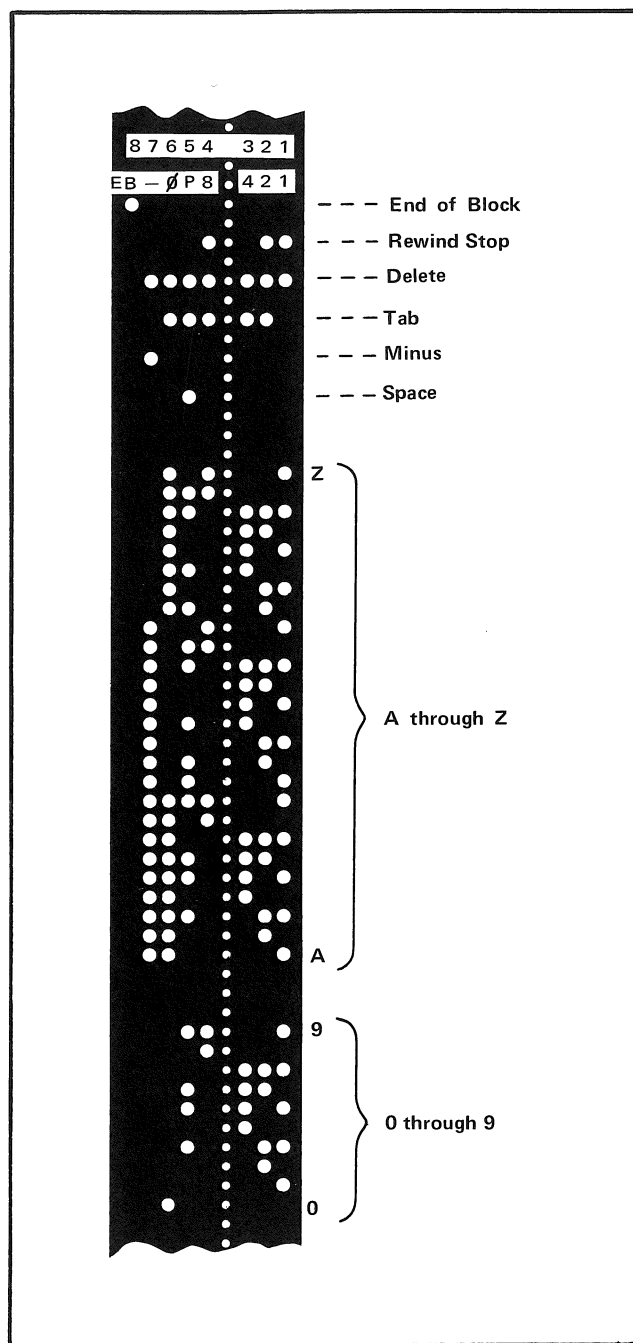

Fig. 2-1. EIA Standard Coding as used in the 1701/1702. The tape used is eight channel, 1 inch wide.
**Tape Modes (Tape Auto and Single Block).** In the tape modes, all commands are read into the 1701 from standard eight channel, one-inch wide tape (see Fig. 2-1) that is perforated in binary-coded-decimal machine language as specified by EIA standard classifications. The tape reading speed is 300 characters per second.